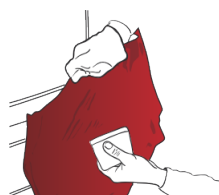

Figure 19
- › If necessary, lift the film, stretch it again and completely wrap the convex surface, then apply it. (FIG. 19)